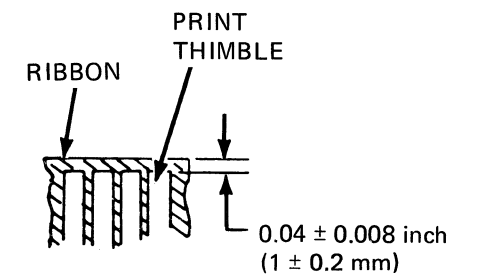

Figure 5-5 Ribbon Color Red Adjustment
- Move the ribbon change arm B up or down so that the gap between the ribbon top edge and the print thimble long finger top edge is 0.04 ± 0.008 inch (1.0 ± 0.2 mm) (see Figure 5-5).